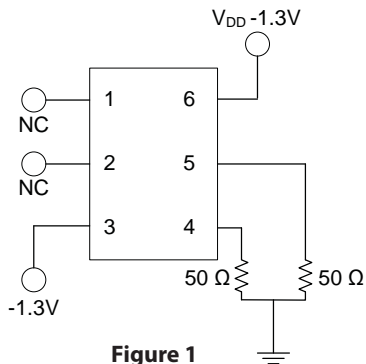
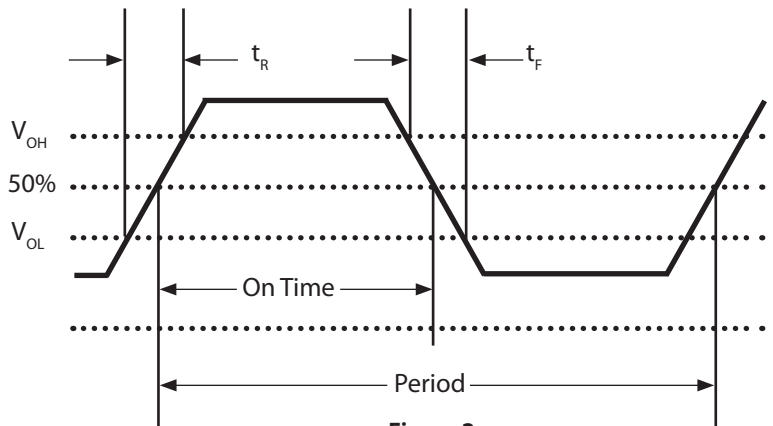
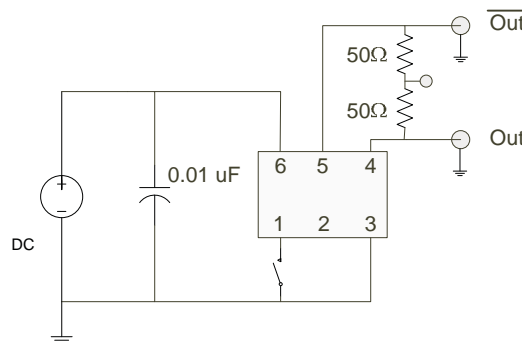

Figure 1
Figure 2
Figure 3
- Figure 2 defines these parameters and Figure 1 defines the test circuit.
4. Figure 2 defines these parameters and Figure 3 defines the test circuit.